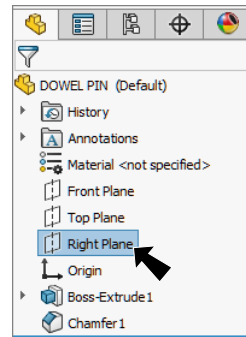

Fig. 7
Step 1. Click **Right Plane**  in the Feature Manager to select Plane, **Fig. 7**.